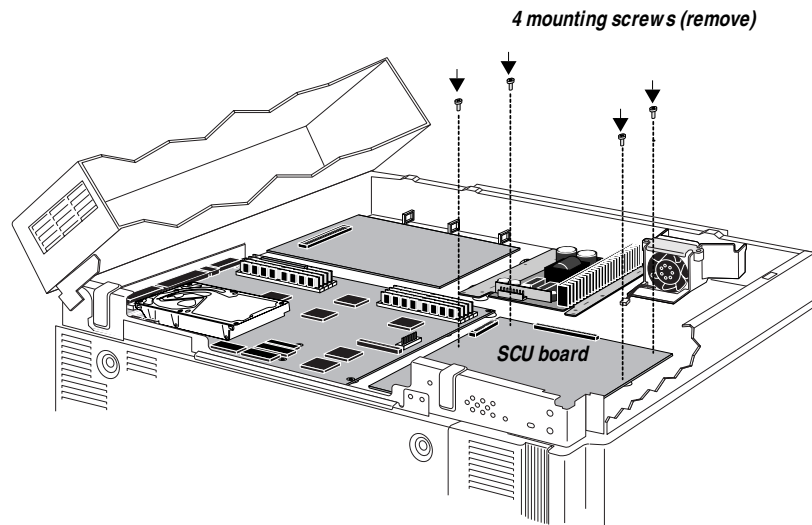

Figure 3-15 Removing SCU board mounting screws
1. **Remove four of the mounting screws that secure the SCU board to the copier (see Figure 3-15 on page 3-17).**